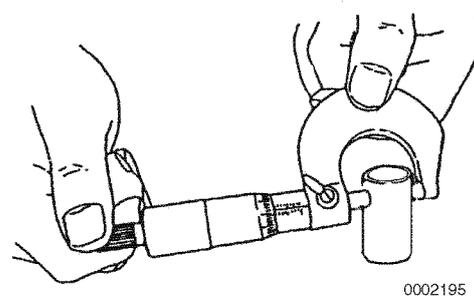

Figure 6-73
2. Measure the outside diameter of the tappet stem (Figure 6-73, (1)). Record the measurements. See *Tappet* on page 6-12 for the service limit.